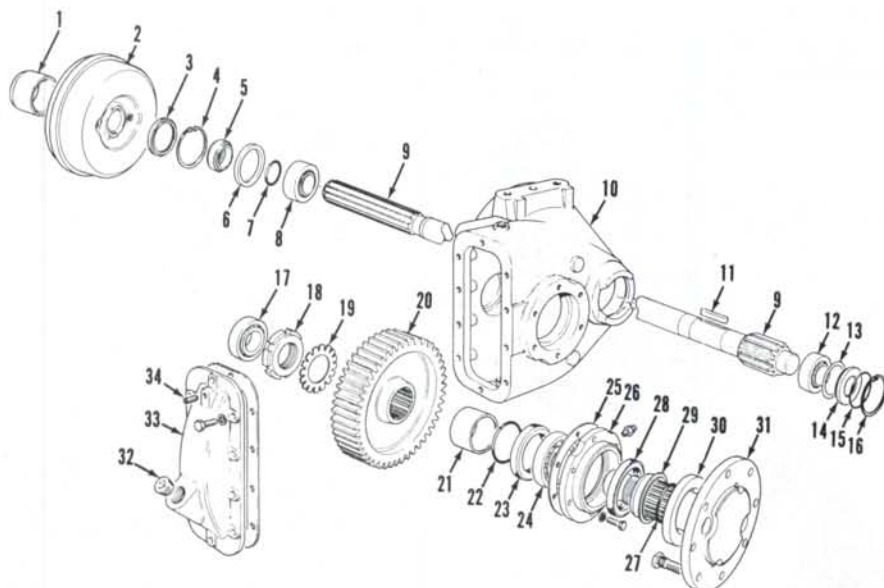
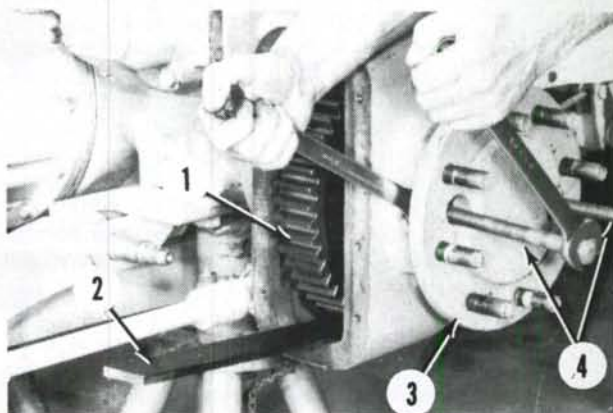

Fig. 215—Exploded view of final drive assembly used on 1190, 1194, 1290, 1294, 1390 and 1394 models.
Fig. 216—Use two jack screws (4) with flat washers and nuts through holes in stub axle flange to pull stub axle shaft from housing.
280. **DISASSEMBLY.** Remove final drive cover (33—Fig. 215). Bend back tab washer (19) from nut, then use a suitable spanner wrench (CAS-1666 for 1190 and 1194, or CAS-1210 for all other models) to loosen nut (18) on stub axle shaft (31). Place a suitable block under bull gear (20) to prevent gear from fall-
ing when stub axle is removed. Use two bolts with washers and nuts as jack screws through openings in stub axle flange as shown in Fig. 216 to pull stub shaft from housing. Remove bull gear, inner bearing (17—Fig. 215) and sleeve (21). Remove oil seal housing (26) and shims (25). Use a puller to remove outer bearing (24). Use a driver to remove inner seal (23) from final drive housing and outer seal (28) from seal housing.
To remove axle shaft (9—Fig. 215), the final drive housing must be removed. Remove snap ring (16), then press axle shaft out of housing towards wheel side. Remove end cover (14), shims (13) and outer bearing cup. Remove collar (1) and brake drum (2). Remove inner bearing cup, spacer (6), snap ring (4) and oil seal (3) from housing. Remove keys (11), collar (5) and bearing cones from axle shaft.
Heat bearing cones to 120°C (250°F) maximum before installing on axle shaft. Press collar (5—Fig. 215), "O" ring end first, onto axle until collar seats against bearing. Install keys (11) in axle shaft. Assemble inner bearing cup, spacer (6), snap ring (4) and seal (3) into housing. Lip of seal must be towards snap ring. Place axle into housing from wheel side and install outer bearing cup.